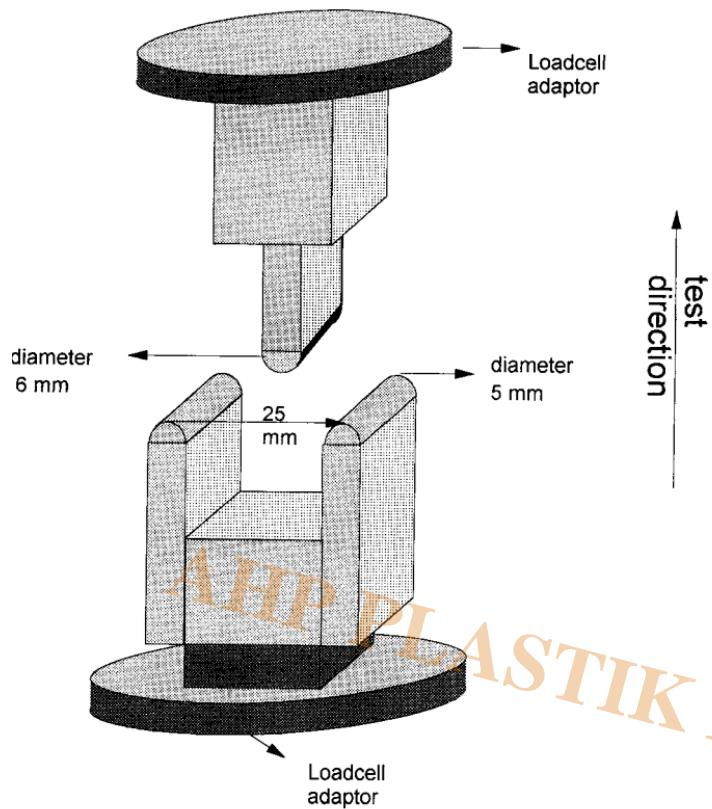

FIG. 5 Alternative Apparatus for **Stiffness** of Fabric Testing
38.4.3.1 For CRE-type tensile testing machines, which are able to measure under compression, a 3-point bending fixture with a distance between the lower rollers of 25-mm (1-in.) can be used in place of the above described specimen holder. The lower rollers have a radius of 5-mm (1 $\frac{1}{4}$ -in.) and the upper roller has a radius of 6-mm (1 $\frac{1}{8}$ -in.) (see Fig. 5).